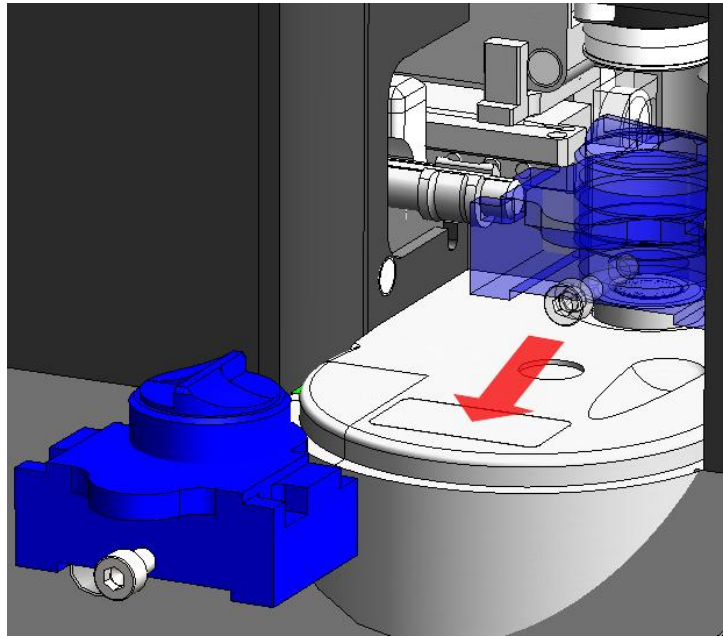

Fig. 3-8. Removing bracket
2. Remove the scanner bracket (Fig. 3-8).